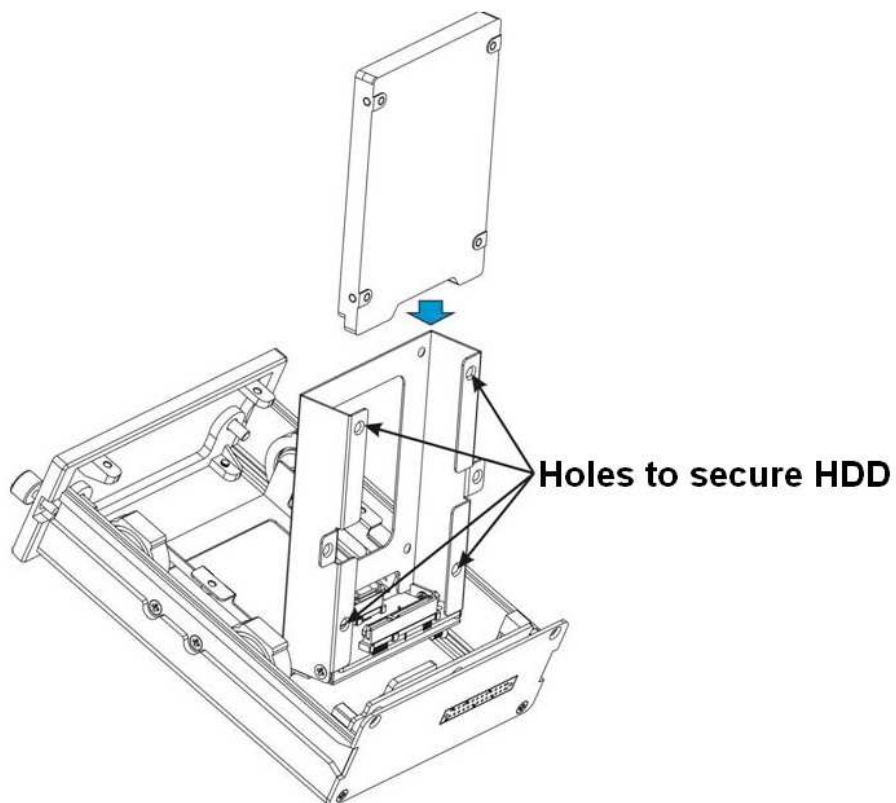

Figure 3-3
3) Now you can install the first HDD. Please turn the HDD bracket up. See Figure 3-3. Put the HDD to the HDD bracket along the arrow direction. Line up the holes of the HDD to the HDD secure holes. Use bolts to secure the HDD.